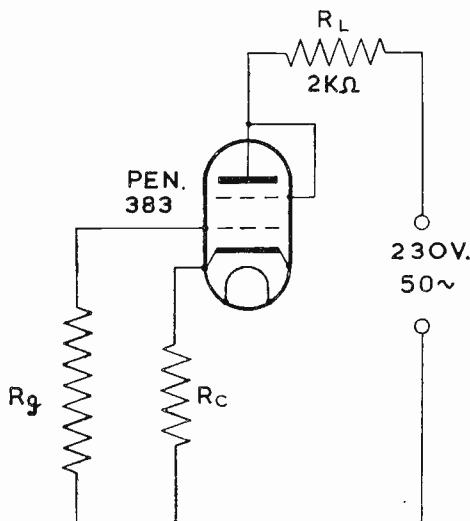

Fig. 1. Fundamental circuit for triode valve operating on A.C.
(1) The valve will be used as a relay and will have maximum and minimum D.C. equivalent values of anode current (and no intermediate values) controlled by some switching arrangement in the grid circuit.
(2) The anode voltage will be derived from a supply of 230 V 50 c/s., a common value.
(3) The valve under investigation is a PEN 383; an A.C./D.C. mains output pentode, in this application connected as a triode (Fig. 1).
(4) The anode load R_L will be purely resistive requiring, at the two maximum and minimum values of anode current noted above, certain known power dissipations.
This, however, is not very helpful as no control over the grid voltage has been considered. Fig. 1 shows a circuit of quite conventional electrode connections; the grid and cathode being returned to "earth" by R_g and R_c respectively. Let us suppose that in the anode circuit we have to establish an E.C.A.C. of 22.5 mA to maintain closed a device that requires 1.0 watt of input power. While calculations would determine the exact value of R_o to provide 22.5 mA of E.C.A.C., the anode characteristics do not supply the answer in a readily obtainable manner.